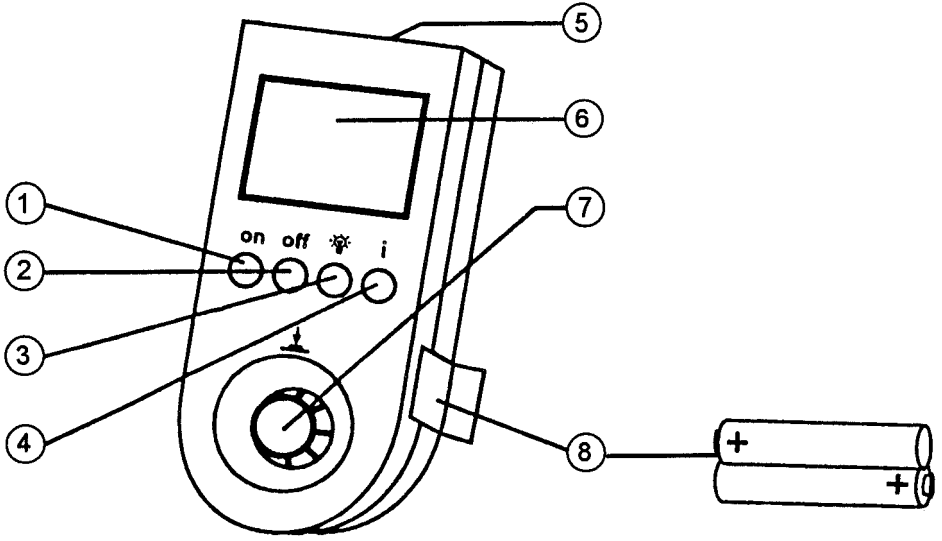
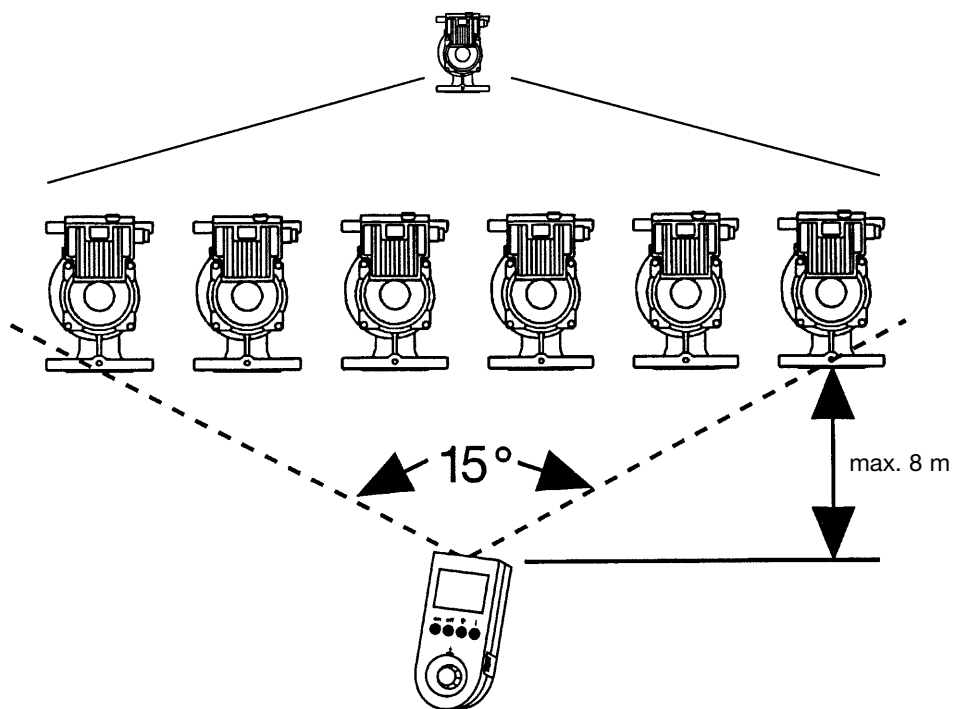

Fig. 1
Fig. 3
4.1 Description of the IR monitor (Fig. 1)
- **Display:** (Fig. 1, pos. ⑥). Screen definition: 128 x 128 dots, graphic compatibility, presentation of freely-defined symbols, optional background illumination (Fig. 1, pos. ③).
- **Energy supply:** 2 x round cells R6 (Fig. 1, pos. ⑧), each 1.5 V or suitable storage batteries. Once the battery is dead, an acoustic warning sound will be heard. In addition, "Battery dead" appears on the display. In order to save storage battery capacity, the monitor automatically switches off after a certain length of time during which it has not been operated.
The **IR window** (Fig. 1, pos. ⑤) is positioned on the face of the monitor. This window constitutes the transmitter and receiver surface and must be directed at the pump with which the display is to communicate. The bearing angle of the transmitter and receiver range of the monitor and the pump module are depicted in Fig. 3 and must be directed at the selected pump during the location procedure. Throughout the duration of the communication the monitor's direction of bearing must be maintained.
By pressing the **"ON" button** (Fig. 1, pos. ①) the **Start menu**, **WILLO** logo and the address of the operator will appear on the display (see table II). The monitor can be switched off using the **OFF button** (Fig. 1, pos ②).
The background lighting on the display can be switched on and off using the **light button** (Fig. 1, pos. ③).
Information on how to operate the menu can be called up onto the display by pressing the **"I" button** (Fig. 1, pos. ④).
The menu can be operated using the **one hand operating button** (Fig. 1, pos. ⑦). The directly selectable switching panel in the menus appears inverted. By pressing (clicking) the operating button the command for the inverted switching panel is carried out. By turning the operating button by one point, the inverted switching display moves to other switching displays on the same menu (turning to the right moves forward and to the left backwards), which can then be selected. The appearance of an arrow at the lower or the upper end of the data display, signifies that there are further data displays which can be viewed by turning the operating button. Using the same button, the data field can be scrolled upwards. In this case none of the switching displays appears inverted on the screen.